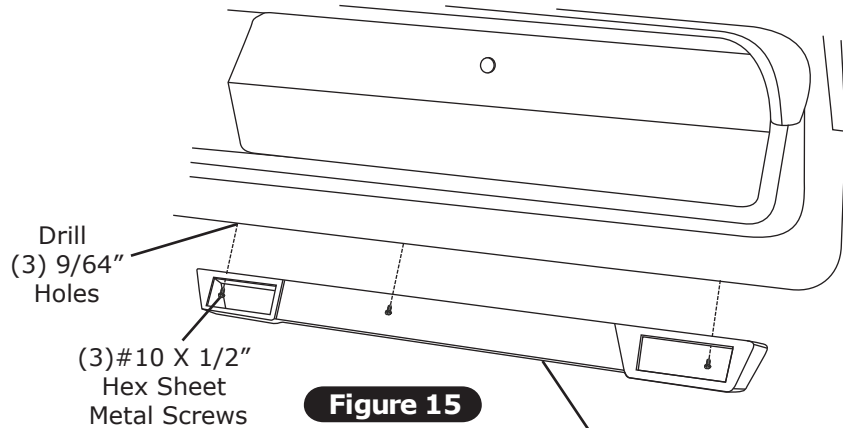

Figure 15
1. Place center/passenger side louver housing under dash. Mark and drill (3) 9/64" holes as shown in Figure 15, below.
2. Secure louver housing to dash using (3) #10 x 1/2" hex sheet metal screws as shown in Figure 15, below.